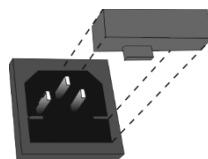

Figure 11.
- 11.5 Fuse replacement. Disconnect from electric circuit. Remove the power plug from the rear side of the unit (fig. 1/2). Pull out the fuse holder by applying leverage in recess (figure 11). Remove the fuse from the holder. Check and replace with the correct fuse if necessary, **M** 3.15 A for 230 V and **M** 8.0 A for 120 V (type **M** - time lag: **Medium**).